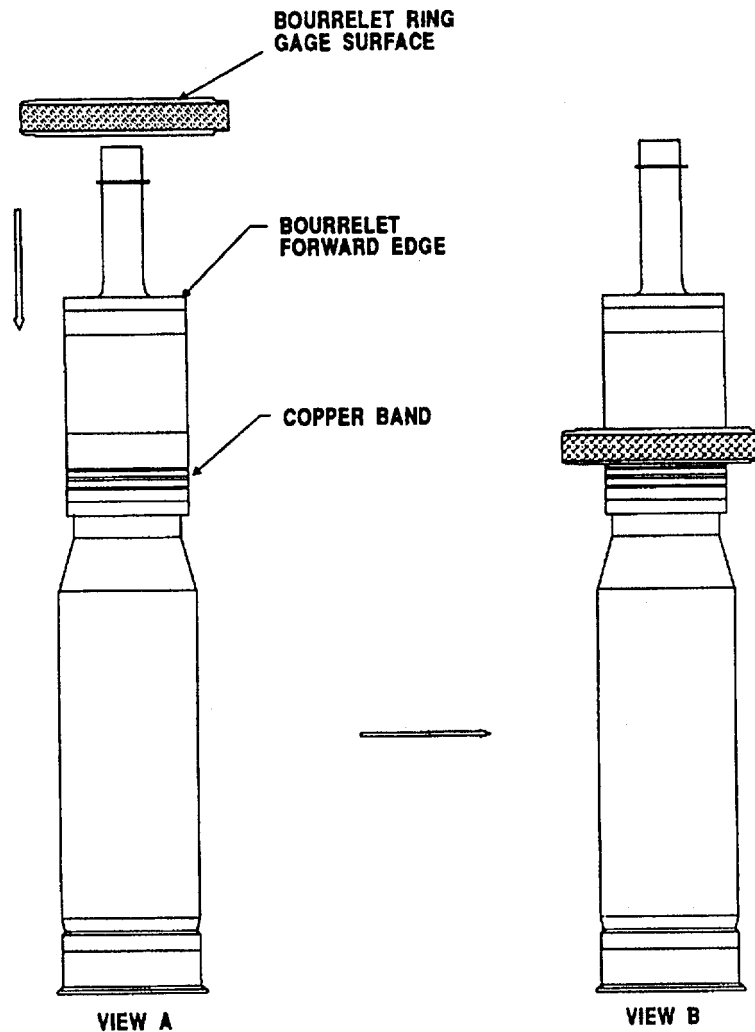

Figure 21. Bourrelet ring gage.
(1) Description of Operation for HEAT Round.
- (d) Apply bourrelet ring gage over the bourrelet and pass gage slowly down to the copper band (fig. 21).